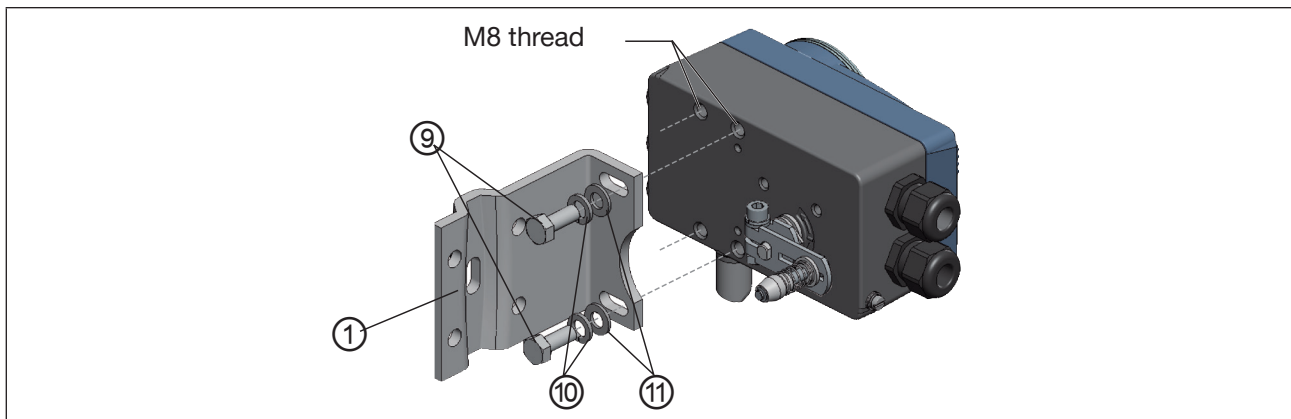

Fig. 25: Attaching the mounting bracket
→ Attach the mounting bracket ① to the rear of the positioner using the hexagon bolts ⑨, the spring lock washers ⑩ and the washers ⑪ (see “Fig. 25”).